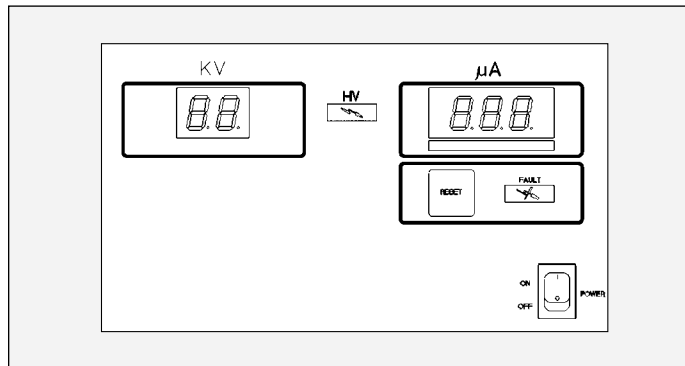

Figure 3: 9060 Operator Interface
The 9060 HV2 Controller shown in Figure 3, has a simple operator interface consisting of two (2) LED (Light Emitting Diode) indicators, one (1) power switch, one (1) button, one (1) current LED bargraph, and two (2) screens containing seven-segment displays. The following describes the behavior of the interface components used with the No. 2 Process Handgun.